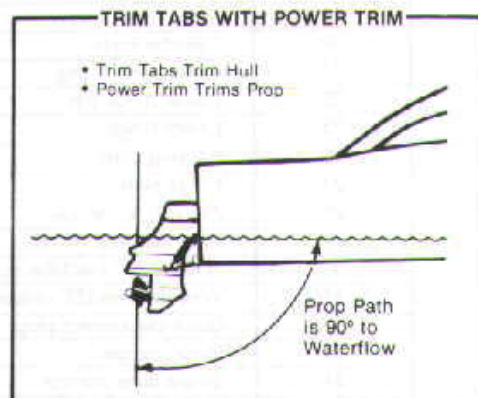

Figure 5
**Using trim tabs with power trim:**—1. Adjust the trim tabs to achieve a planing attitude. 2. Use the power trim to position the prop path parallel to the waterflow. 3. If necessary, re-adjust the trim tabs to "fine tune" (figure 5).